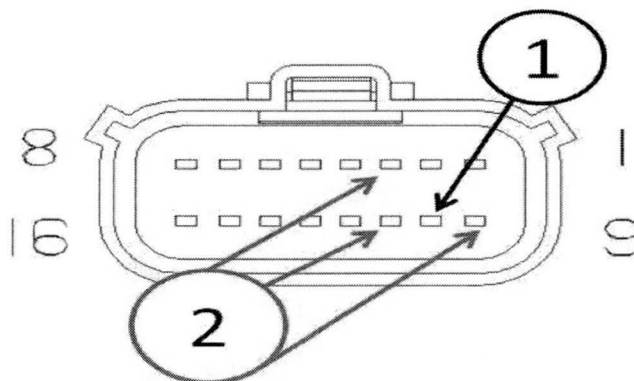

Fig. 1 FOUR WIRES FROM TRUCK MUST BE TRANSFERED TO OVERLAY HARNESS
13. The four terminals that need to be removed from the original vehicle O2 Sensor Module connector and installed in the overlay O2 Sensor Module connector are terminals 3, 9, 10 and 11 as shown in (Fig. 1). Terminal 10 will always be gold plated. Terminals 3, 9 and 11 will need to be inspected on MY 2011 vehicles for plating to determine if new terminals are required.